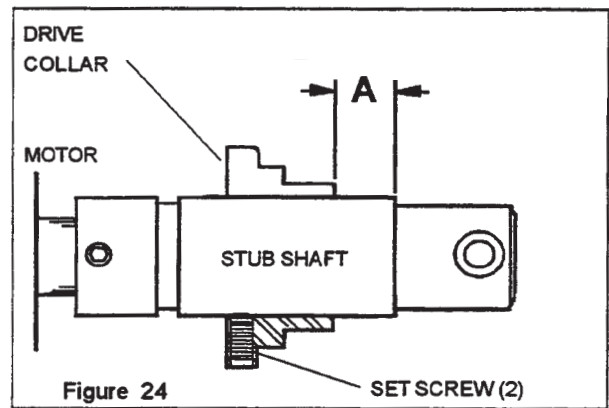

Figure 24
- Slide the seal drive collar onto the stub shaft as shown in Figure 24.
### SEAL CHART for figure 24